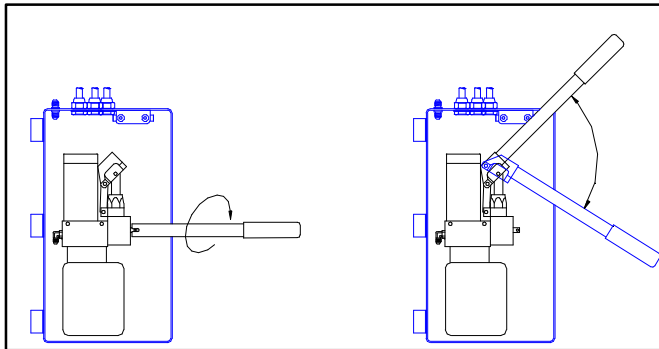

FIGURE 2-9: LIFT OPERATION – PLATFORM MANUAL RAISING
- 1) Refer to **Figure 2-9**. Engage pump release valve with handle extension. Make sure the notches at the end of handle are fully engaged by pin on release valve. Slowly twist the handle 1/4-turn COUNTER-CLOCKWISE until the lift platform begins to lower.